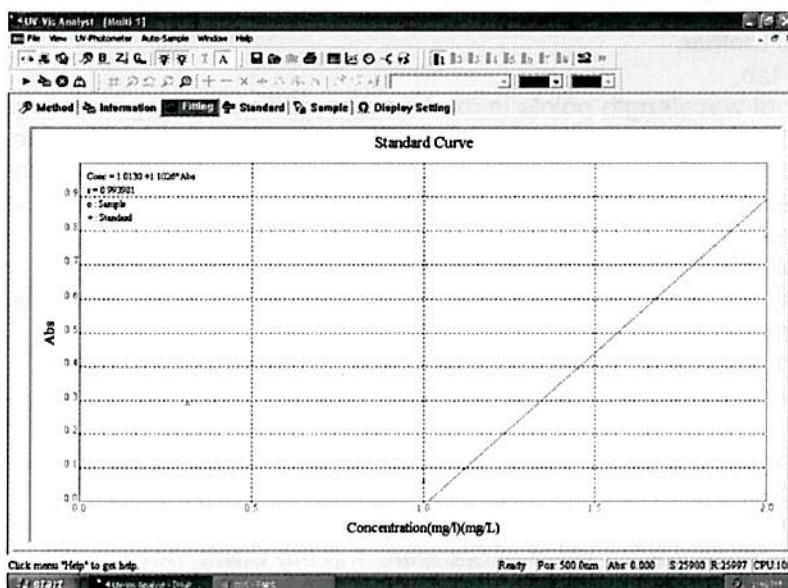
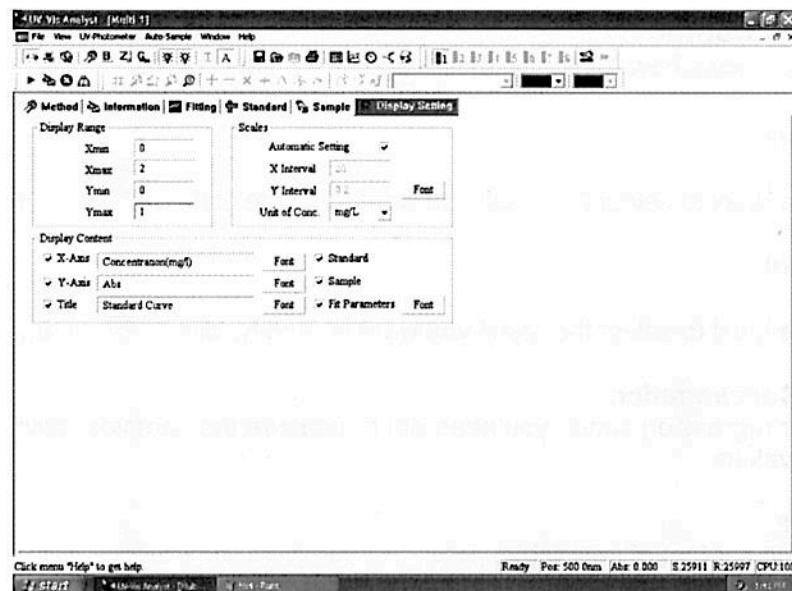

Fig. 4-7
Fig. 4-8
(1) Leave the **Use Standard Samples** check box.
(2) Click down arrow in **Curve Fit** box to select curve fit method.
(3) Input the factor of the linear regression curve.
7. Click **Fitting** tab to view the **linear regression curve** (Fig. 4-7). Click **Display Setting** tab to set the display parameters and unit of concentration (Fig. 4-8).